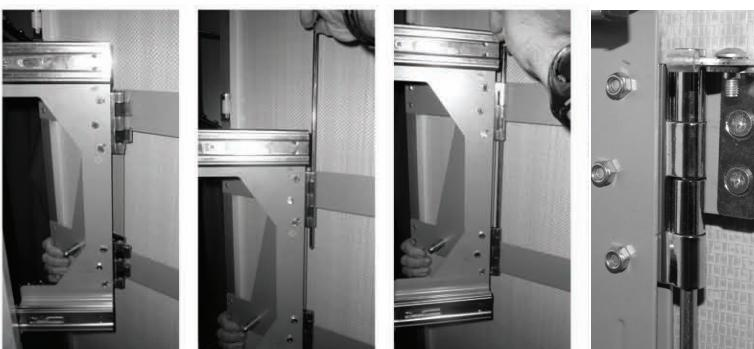

Figure 3
**Step 6.** Pick up the mirror (longer rollers toward outside of closet) and align hinges on the Slide Frame Assembly with the hinges on the mirror. Insert hinge pin/stop assembly thru the top hinge and into the bottom hinge (see Fig. 3). Attach hinge stop (L-shaped part) to mirror frame with (2) #8 x 1/2" flat head screws into pre-drilled holes.